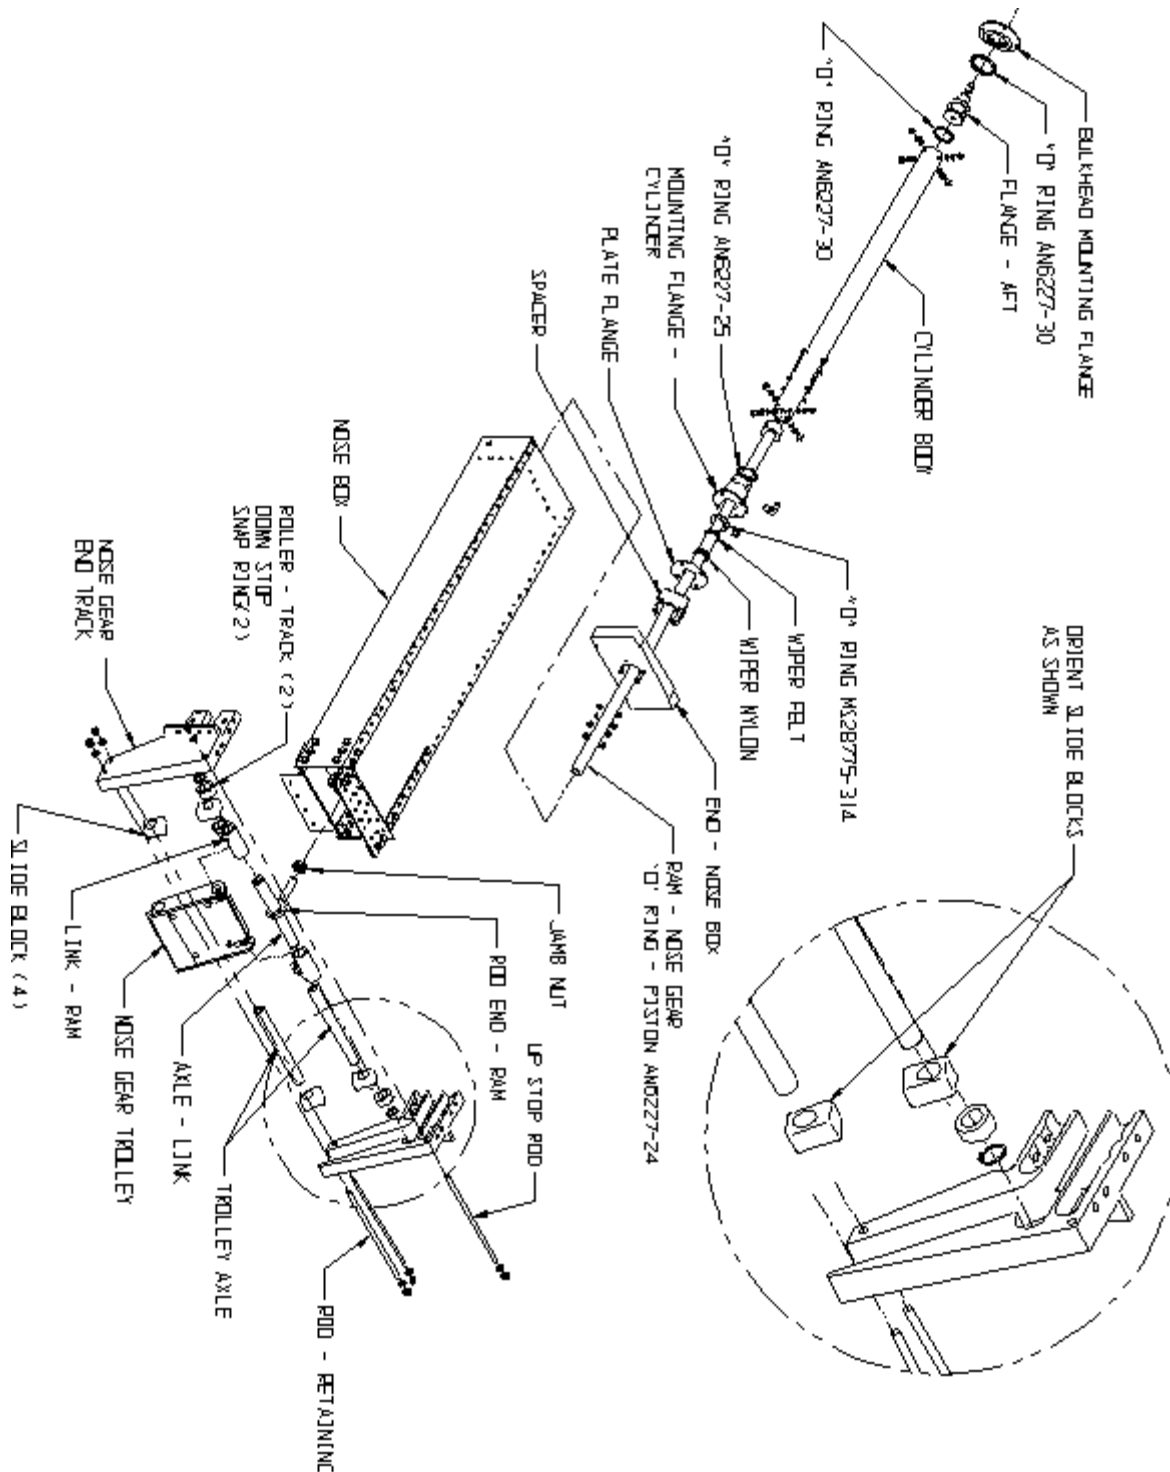

FIGURE 2.9
The up stops nests in the up-stop bolt. See figure 2.9 and 2.10 for locations and assembly.
Gear must be in down position. Unbolt the spring from the trolley. Relieve the pressure in system, place gear selector handle in neutral position (lever between up and down), and remove rear hydraulic line. Remove (4) bolts on forward end of cylinder. Drain fluid. Pull aft to expose internal piston rod. Loosen jamb nut on forward side of cylinder ram at rod end. Turn piston from aft side of nose box out of rod end. Push on trolley assembly to unlock and remove the bottom thru-bolts. Slide out of nose box. Note: On installation, adjust piston so it bottoms out on aft flange at the same time as the bearings when nose gear is in locked position. Also note orientation of trolley blocks. The side with the most edge distance from hole is to go toward each other on inside of trolley. (See figure 2.9 for details).